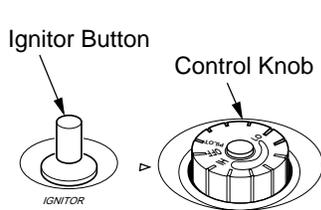

Figure 22 - Control Knob In The OFF Position
3. Turn control knob clockwise to the OFF position (see Figure 22).
4. Wait five (5) minutes to clear out any gas. Then smell for gas, including near the floor. If you smell gas, **STOP!** Follow "B" in the safety information, column 1. If you don't smell gas, go to the next step.
5. Turn control knob counterclockwise to the PILOT position. Press in control knob for five (5) seconds (see Figure 22).